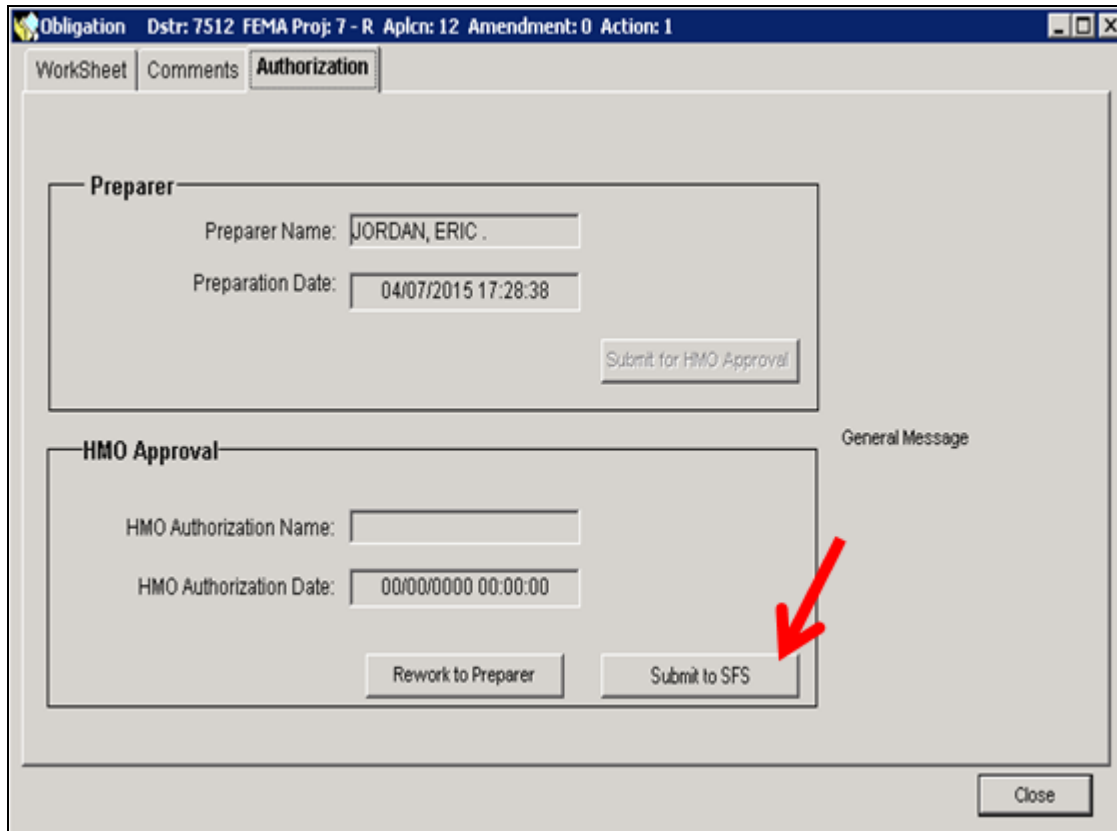

Figure 10-50: Mitigation > Funding > Obligations
8. Click the **Authorization** tab. Click the SUBMIT TO SFS button (Figure 10-50).